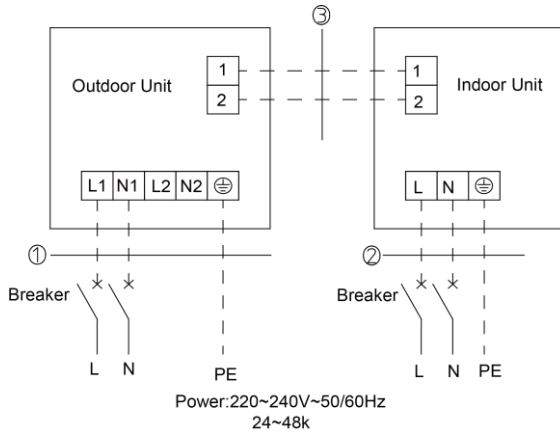

Fig. 4.39
①. The power cord and the wire of the fresh air valve are high-voltage, while the communication cord and connection wire of the wired controller are low-voltage. They should run separately against electromagnetic interference.
②. The high-voltage and low-voltage lines should pass through the rubber rings at different electric box covers.
③. Do not bundle the connection wire of the wired controller and the communication cord together, or arrange them in parallel, otherwise improper operation would occur.
④. The high-voltage and low-voltage lines should be fixed separately and securely, with internal big clamps for the former and small clamps for the latter.
⑤. Tighten the indoor/outdoor connection cord and power cord respectively on the terminal boards with screws. Faulty connection may cause a fire.
⑥. If the indoor unit connection cord (to the outdoor unit) and power supply are wired incorrectly, the air conditioner may be damaged.
⑦. Connect the indoor unit connection cord properly based on the corresponding marks as shown in Fig. 4.39.
⑧. Ground both the indoor and outdoor units by attaching a ground wire.
⑨. Unit shall be grounded in compliance with the applicable local and national codes.